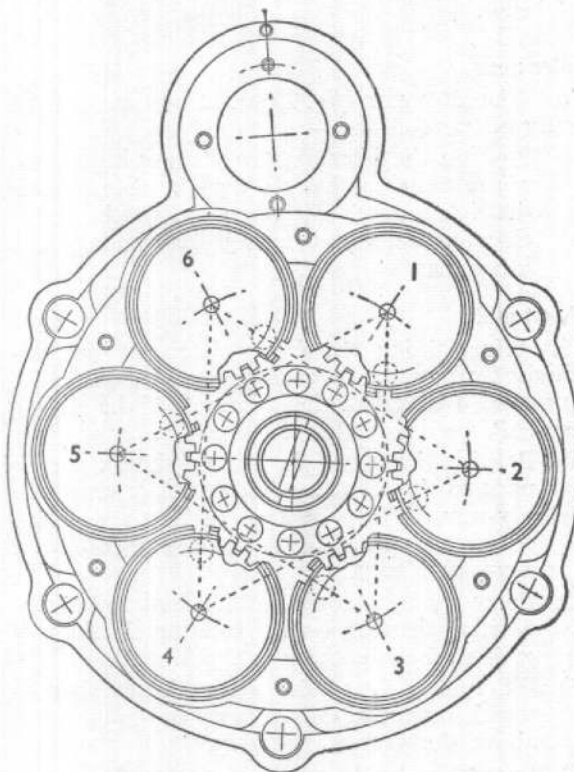

Fig. 28. Timing the sealing gears
- (3) Enter the thrust nut in No. 6 housing on the firing head and position the assembly so that the key-way in the pad points to the centre of No. 2 housing. Refer to fig. 28.
- (6) Remove the locking plate and *leaving the sealing gear in mesh*, unscrew and remove the sealing pad and spacer.
- (7) Assemble the firing pin assembly as detailed in para. 64.
- (8) Repeat the foregoing procedure for each sealing gear assembly in turn, working anti-clockwise from No. 6 to No. 1; always ensure that the coding of each sealing pad, sealing gear and housing coincide. The respective housing to which the key-way in each sealing pad should point is clearly indicated in fig. 28. Counting